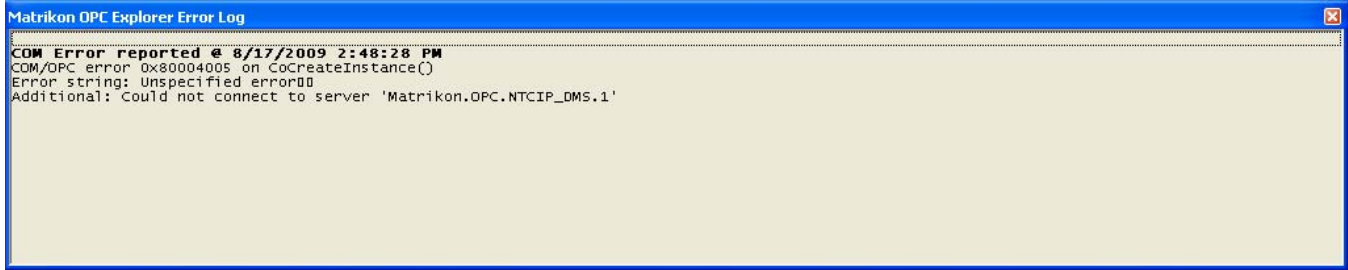

Figure 26 - MatrikonOPC Explorer Error Log Window
6. The **MatrikonOPC Explorer Error Log** window (Figure 26) appears displaying a log of errors.